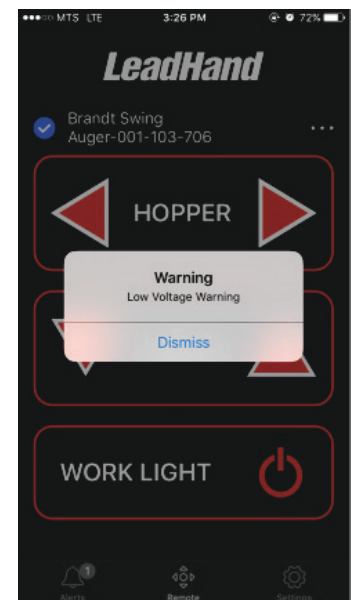

FIGURE 1-13. Alert pop-up
2. Navigate to the Settings screen and select the Manage Augers option as shown in Figure 1-13.